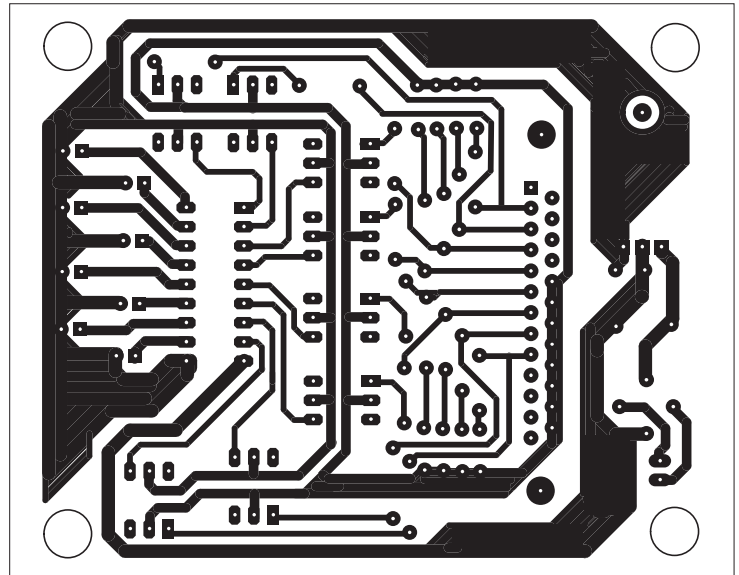

Fig. 5: Actual-size, single-side PCB layout for device control through PC's parallel port using Visual Basic
eight flexible wires for data bus (D0 through D7) by connecting their one end to the PCB and the other end to the respective data pins of the 25-pin, D-type parallel-port male connector. This male connector connects to the female connector on the PC. An actual-size, single-side PCB for the circuit and its component layout are shown in Figs 5 and 6, respectively.
2. Fabricate or get the PCB shown in Fig. 5.